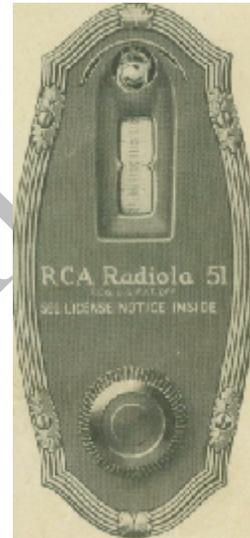

Fig. 3—Selector Dial Showing Canopy Removed and Pilot Lamp in Place
**Pilot Lamp**—Screw the pilot lamp securely into the socket above the Selector Dial. Insert the prongs of the pilot lamp canopy into the slots above the dial and turn the canopy in the clockwise direction until it locks in place. (See Figures 3 and 4.)